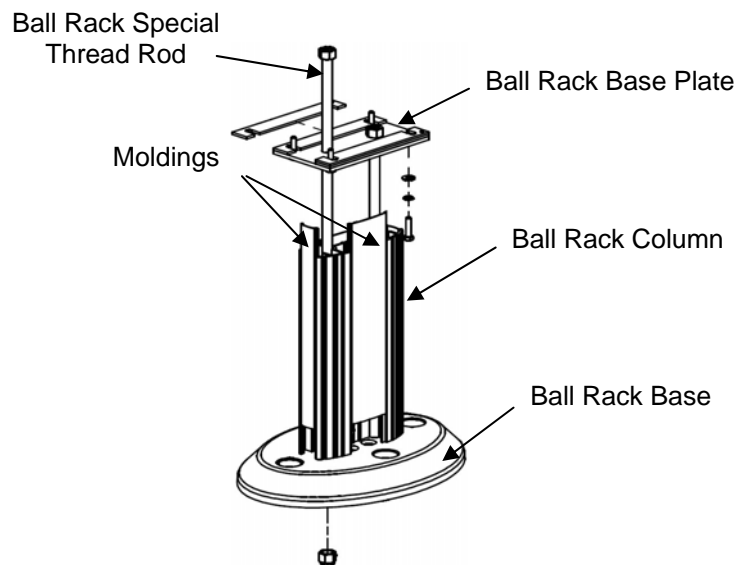

Figure 13, Pedestal Assembly
2. Slide the black and grey moldings into the Ball Rack Column. See Figure 13.